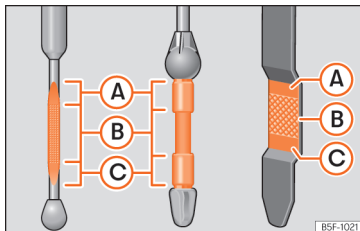

Fig. 242 Engine oil dipstick.
- Then pull it out once more and check the oil level »» **Fig. 242**. Top up with engine oil if necessary.
- When the oil level reaches at least zone »» **Fig. 242 (B)**, unscrew the engine oil filler cap carefully »» **ⓘ**.
If the oil level is above area »» **Fig. 242 (A)**, do not start the engine. This could result in damage to the engine and catalytic converter. Contact a specialised workshop.
The oil level must never be above zone »» **Fig. 242 (A)**. Otherwise oil can be drawn in through the crankcase breather and leak into the atmosphere via the exhaust system.